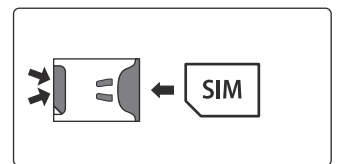

Fig. 55
2. To remove the SIM card carefully use the end of a small flat head terminal driver (indicated with the two arrows on the left side of the SIM holder where the edge of the SIM can be seen, **Fig.55**) and gently push the nano SIM to the right.